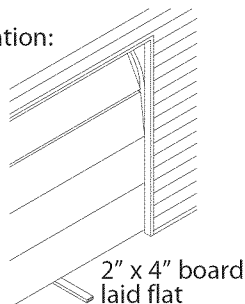

Figure 10
- B** Lay a 2" x 4" board flat in center of doorway (**Figure 10**).